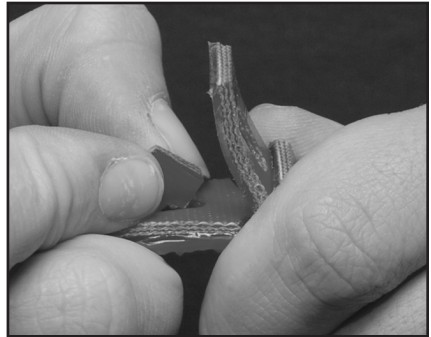

Fig. 5
- Flex the belt further and insert the second tab through the end of the link. Twist 90° to secure. See Fig. 5.